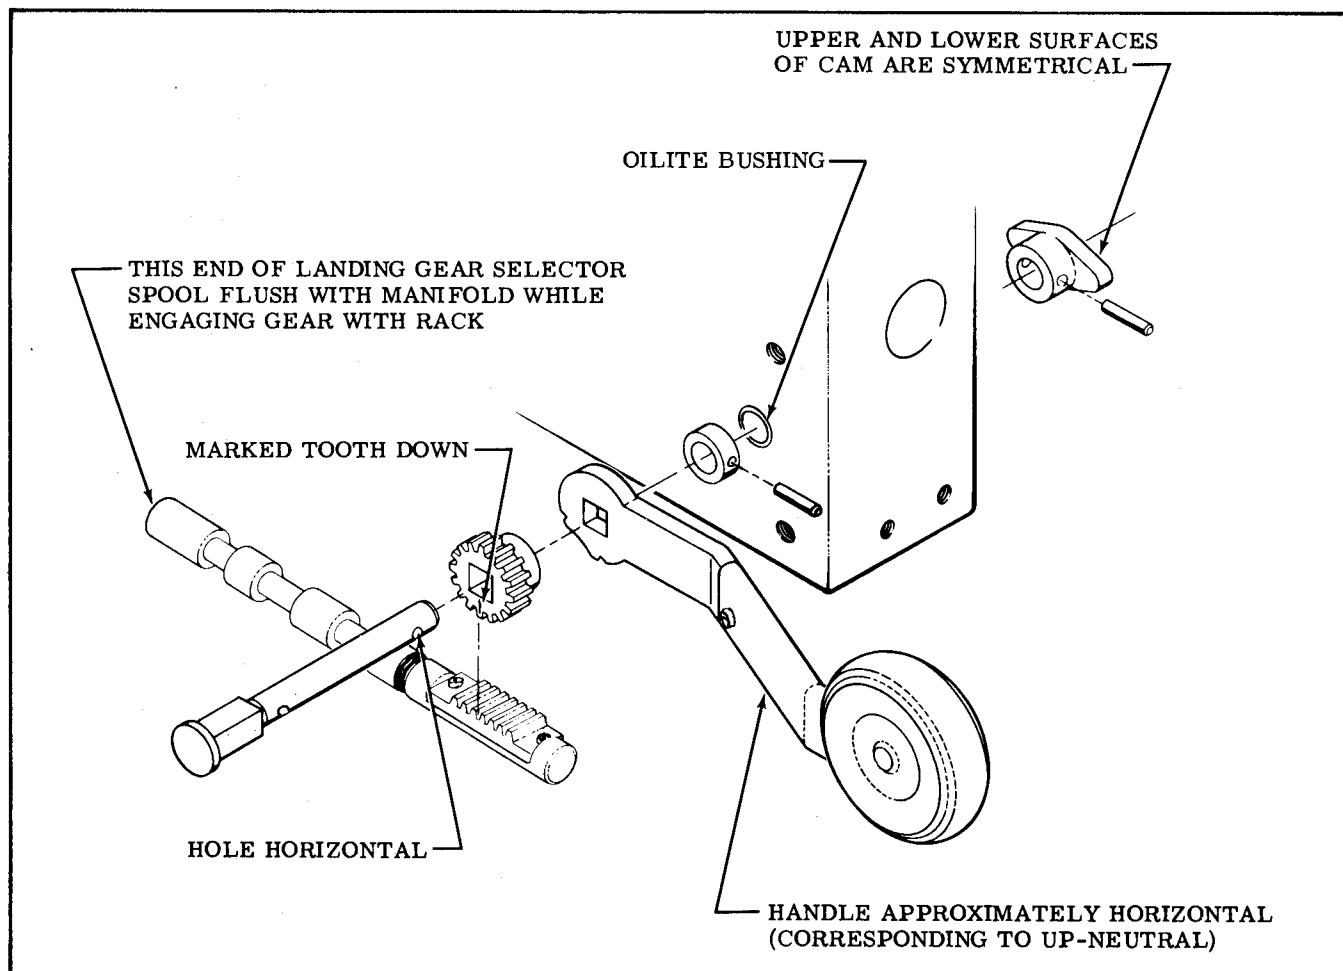

Figure A2-6. Timing of Handle and Selector Spool
c. If the landing gear handle shaft or gear was removed, the parts must be indexed and assembled as shown in figure A2-6.
When installing manifold, time the landing gear handle assembly to rack on selector spool as shown in figure A2-6. Refer to the following steps if binding exists.